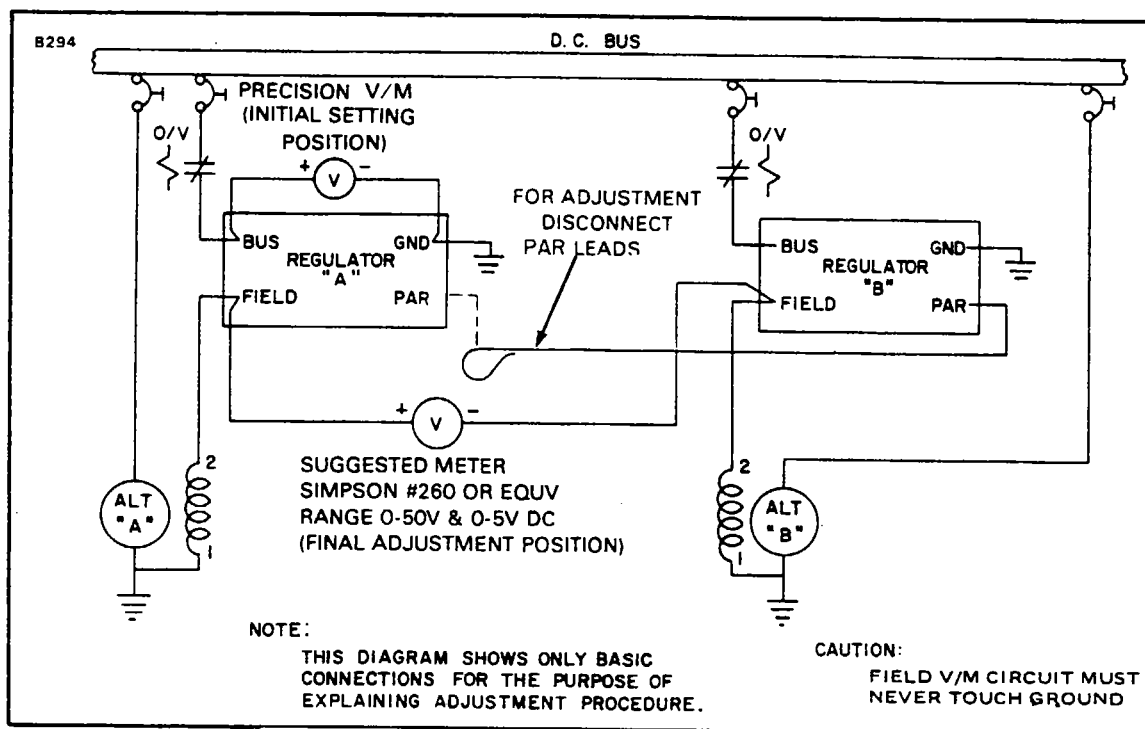

Figure 11-36. Adjusting Regulator (Lamar)
a. These regulators are normally used in parallel alternator systems of multi-engine aircraft. Their final adjustment should be made in actual operation in the aircraft system with test equipment connected as shown in Figure 11-36. The balance adjustment is made while operating only one engine, either left or right. The engine to be operated must be selected so as to permit the technician a completely safe access to both of the regulators, so that they may be adjusted while the engine is operating without danger. We shall designate the engine selected to be operated as "RIGHT" and the inoperative engine as "LEFT" for purposes of discussion.